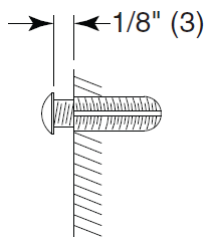

Figure 4
7. Insert 4 screws into the 4 corner plastic anchors and leave 1/8" space from the wall under head for hanging dispenser (Fig. 4).